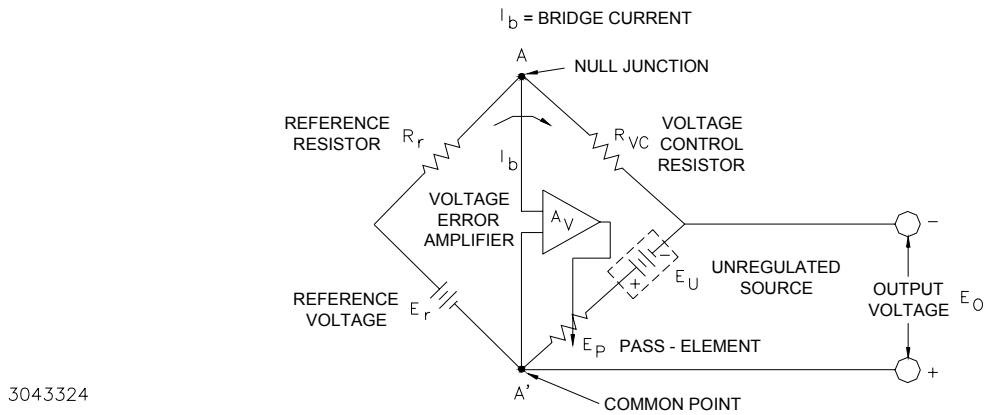

FIGURE 3-3. COMPARISON BRIDGE (SIMPLIFIED) FOR VOLTAGE MODE
A few general remarks may be in order to familiarize the user of this equipment with the terminology and basic equations pertaining to remote programming of Kepco Power Supplies. Electrically, the power supply, consists of the unregulated DC source (E_U), the pass element (E_P), the DC error amplifier (A_V) and a comparison circuit which resembles a four-arm electrical bridge. (Refer to Figure 3-3). The elements of the bridge are arranged to produce a virtual zero at the amplifier input when the bridge circuit is at balance ($V_{AA}' = 0$). Any tendency for the output voltage to change in relation to the reference voltage (E_r) creates an error signal (E) which, by means of negative feedback and the amplifier, tends to correct the output voltage towards restoration of bridge balance.